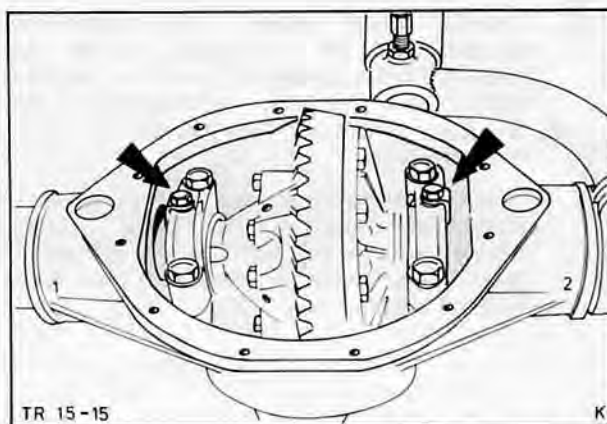

Fig. 25. Detach lock plates from bearing cap
3. Detach locking plates from bearing cap, Fig. 25.